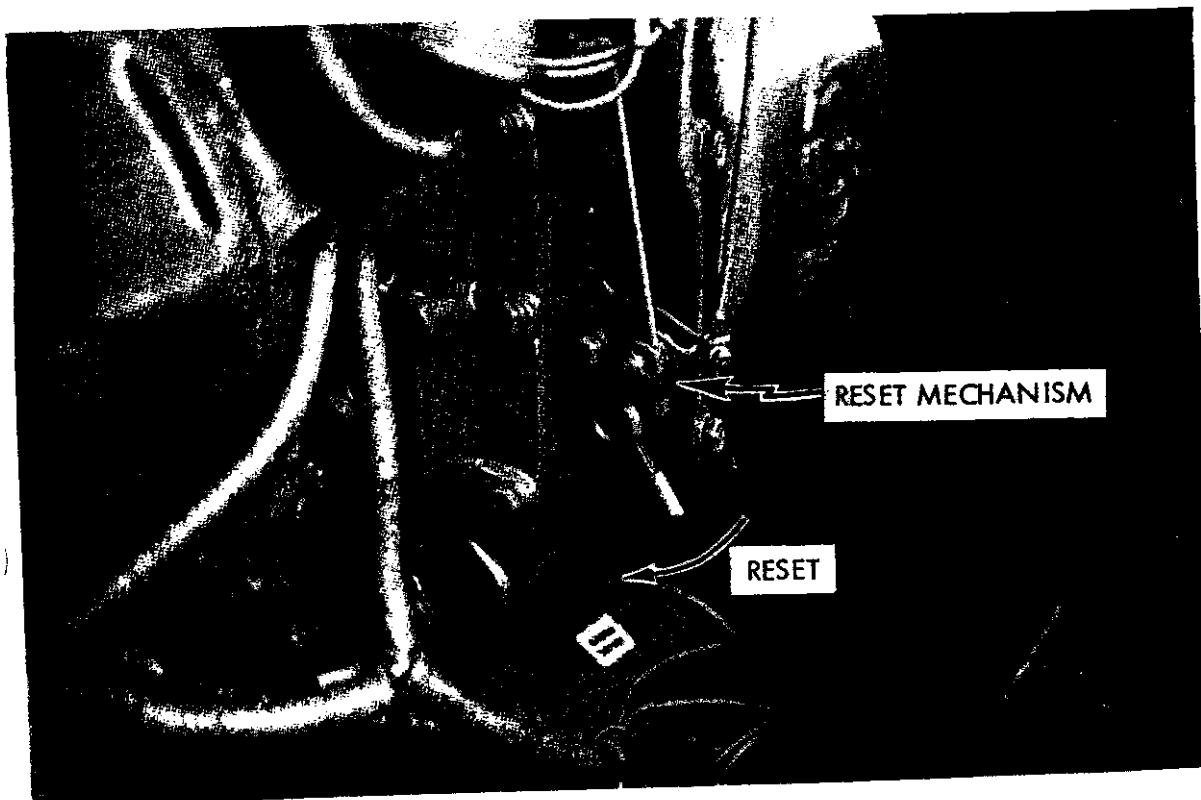

FIGURE 3-2
(1) Clear the area of tools, rags or other items which may interfere with the generator operation. Check the overall condition of the engine (i.e., hoses, belts, etc.).
(2) If repairs were made, check to see that they were completed properly.
(3) Check engine oil for proper level (see Section 4.1.1).
(4) Check radiator coolant for proper level (see Section 4.1.3).
(5) Check fuel level (see Section 4.1.7) and open fuel supply valve to engine.
(6) Check radiator and oil drip pan for fouling (see Sections 4.1.5 and 4.1.6).
(7) Check if area around diesel exhaust pipe is clear. Consider the effects of engine smoke, noise and heat.
(8) Check emergency cutoff. Reset if necessary (see Figure 3-2).